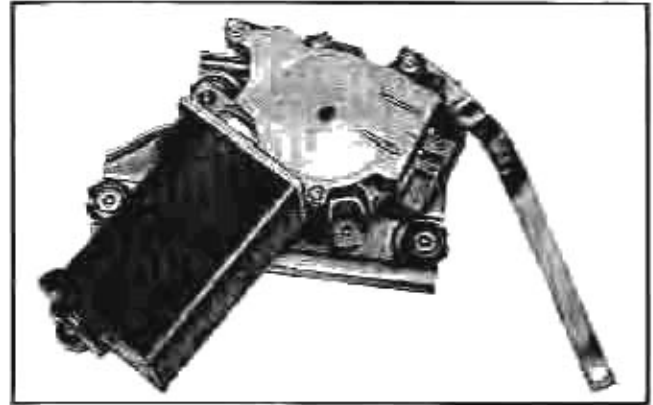
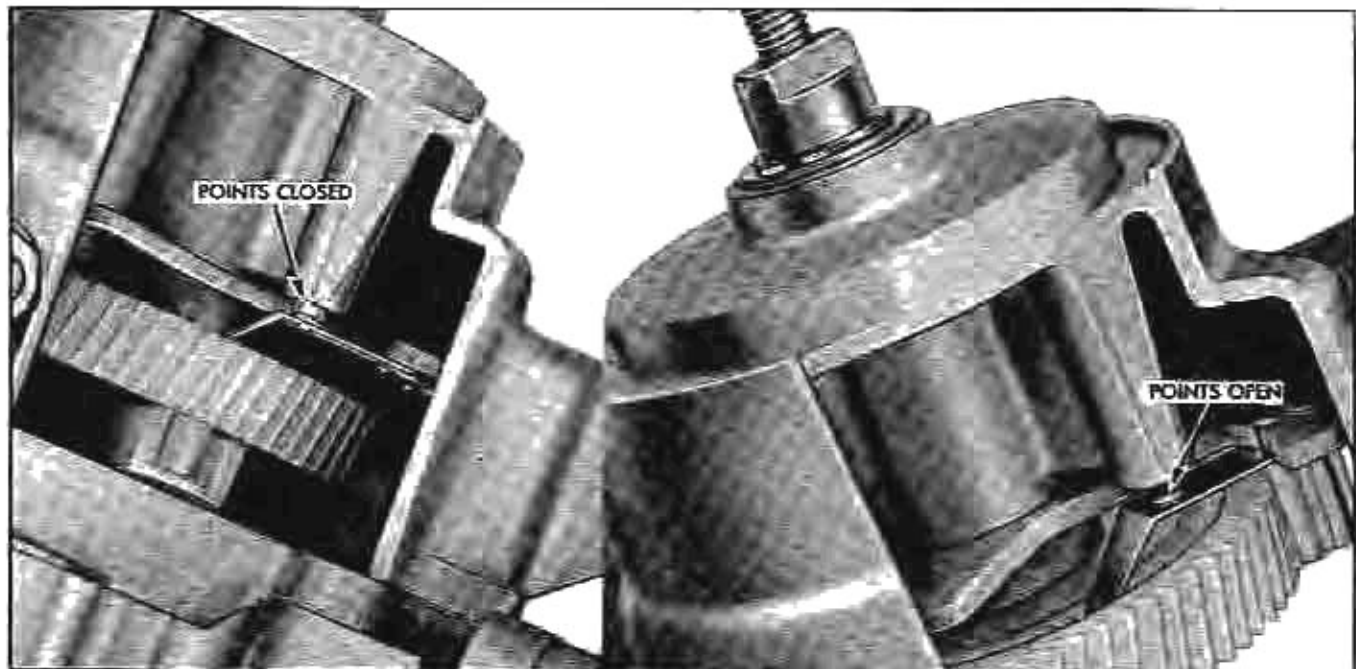

Fig. 11-98 Single-Speed Tandem Wiper
Fig. 11-97 Location of Switch Contacts in Single-Speed Tandem Wiper
The one-speed tandem wiper consists of a rectangular shaped shunt wound 12-volt motor attached to a gear box containing a gear and shaft assembly and parking switch. These wipers operate at approximately 66 cycles per minute and have an automatic park position. The parking switch contacts are located in the gear box (Fig. 11-97) so that a mechanical type washer pump, similar to that used on two-speed overlap wipers, could be adapted to the one-speed tandem wiper systems. See Fig. 11-98 for view showing single-speed wiper and washer pump assembly.
The single-speed tandem wiper operates with two switches, (1) dash and (2) parking control the starting and stopping of the wiper. The parking switch contacts are located internally in the wiper unit gear box (Fig. 11-98).
When the wiper is first turned "off", the wiper motor circuit to ground is opened at the dash switch. However, the parking switch contacts, which are closed to ground by a ring on the wiper gear keep the motor circuits closed to ground until the wiper reaches the park position. As the wiper reaches the park position a cutout section of the ring on the wiper gear is reached. This allows the parking switch contacts to open which in turn opens the motor circuits to ground. See Fig. 11-97 showing parking switch contacts during operation and when wiper is parked.
This condition is caused by parking switch contacts (Fig. 11-98) being dirty or broken. To inspect and/or clean contacts, disassemble gear box.
b. Check to see that parking switch contacts (Fig. 11-98) are not frozen, bent or burnt together.